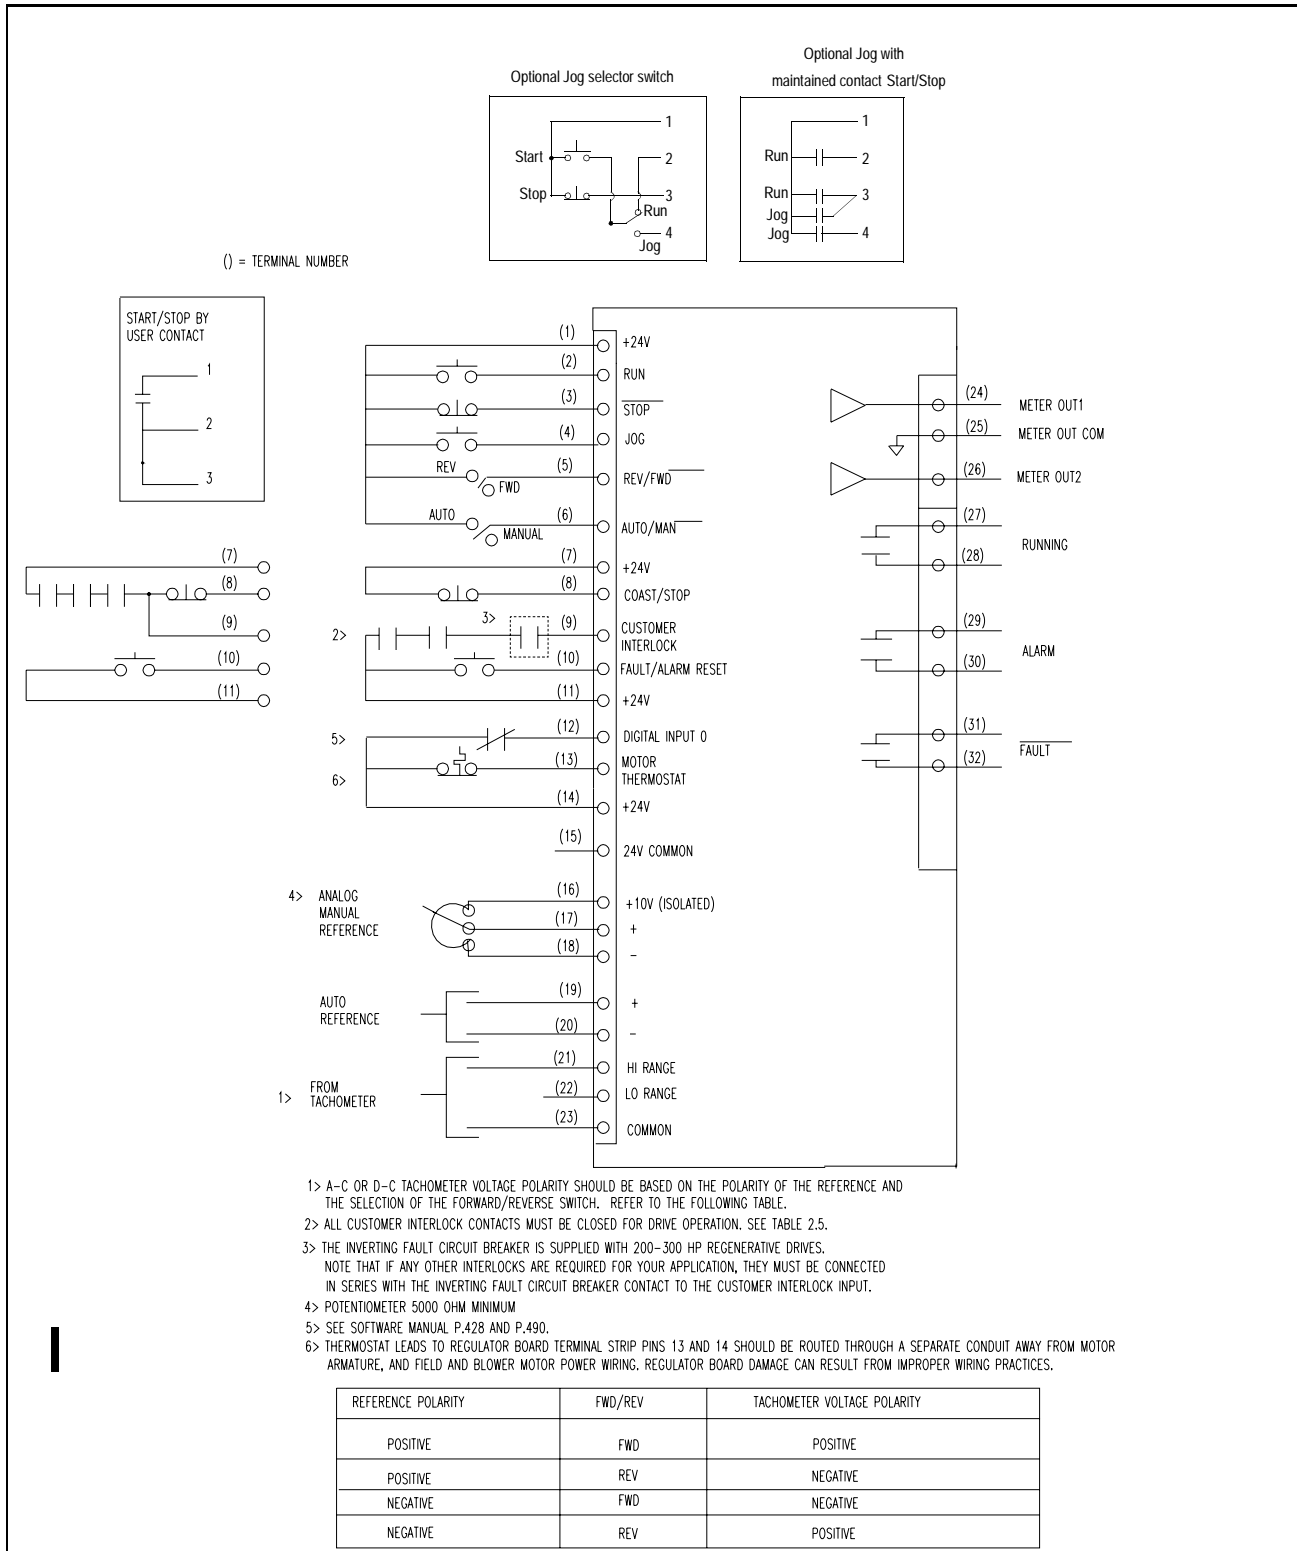

Figure 2.24 – Sample Regulator Board Terminal Strip Connection Diagram
NOTE: The drive will not start if the circuit between terminals 13 and 14 is not made. See figure 2.24.
Step 3. Connect a normally closed Coast/Stop pushbutton to terminals 7 (+24V) and 8. See figure 2.24.
Refer to figures 2.24 and 2.25 and table 2.5 when wiring optional devices to the drive. Size and install all wiring in accordance with the NEC and all other applicable local codes.